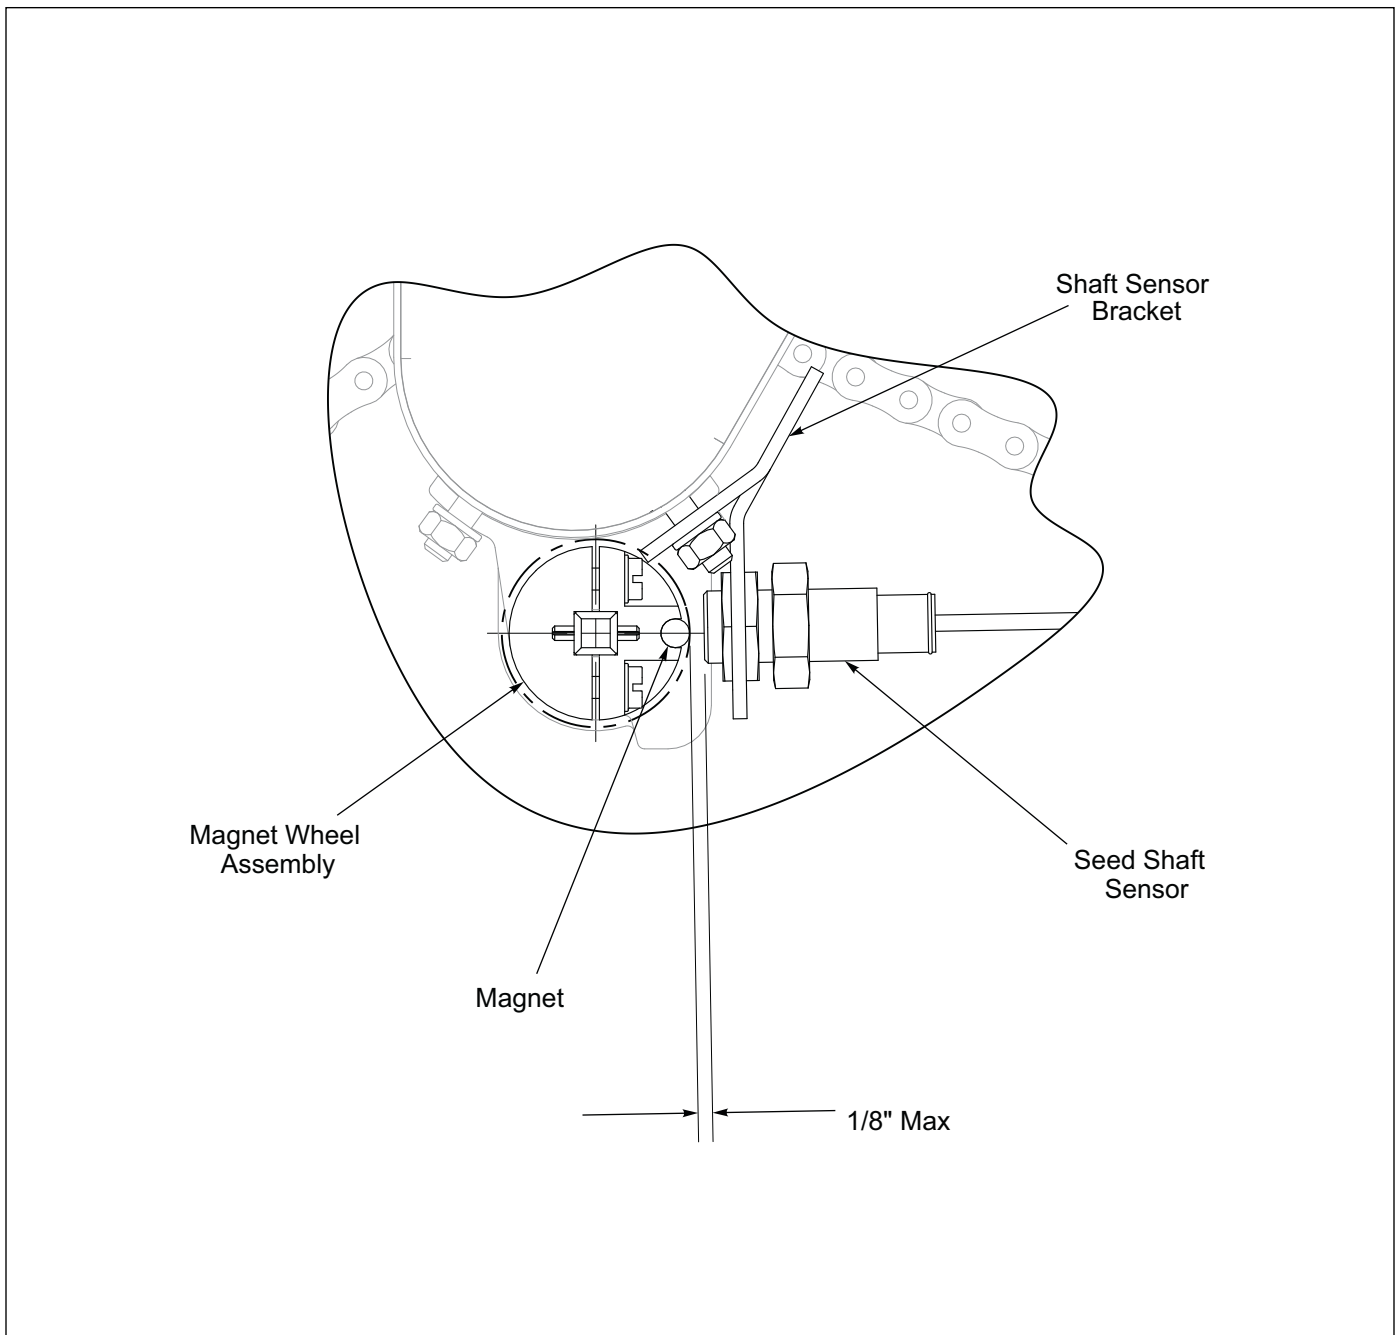

Figure 2-23: Small Box Seed Sensor
6. Slide/Position Seed Shaft Sensor so it is 1/8" from the magnet. **See Figure 2-23.** Tighten both Retaining Locknuts.